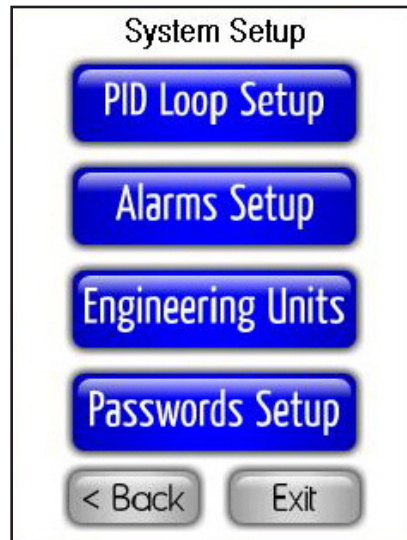

Figure 36. System Setup menu (2 of 2) provides options for configuring engineering units, alarm settings, and managing the system passwords.
The second page of the *System Setup* menu as shown in Figure 36 provides options for configuring the four (4) PID loop settings, all alarm settings, specifying the engineering units for each analog input, and managing the system security passwords. Several of the configuration options on the *System Setup* menus specific to the hardware resources are redundant with those on the *Controller Setup* menus.